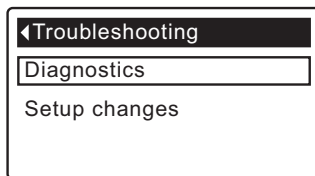

FIG. 90
2. To display the Diagnostics screen from any of the rolling status screens (when an error code is not displayed), press the SELECT (O) button to display the **Main menu**.
4. Press the SELECT (O) button to display the Advanced settings menu.
6. Press the SELECT (O) button to display the Troubleshooting menu (See Figure 90).
1. From any of the rolling status screens, press the SELECT (O) button to display the **Main menu**.
3. Press the SELECT (O) button to display the Advanced settings menu.
5. Press the SELECT (O) button to display the Troubleshooting menu (See Figure 90).
- **Cancel** will return to the Troubleshooting menu (Figure 90).
9. Press the SELECT (O) button.